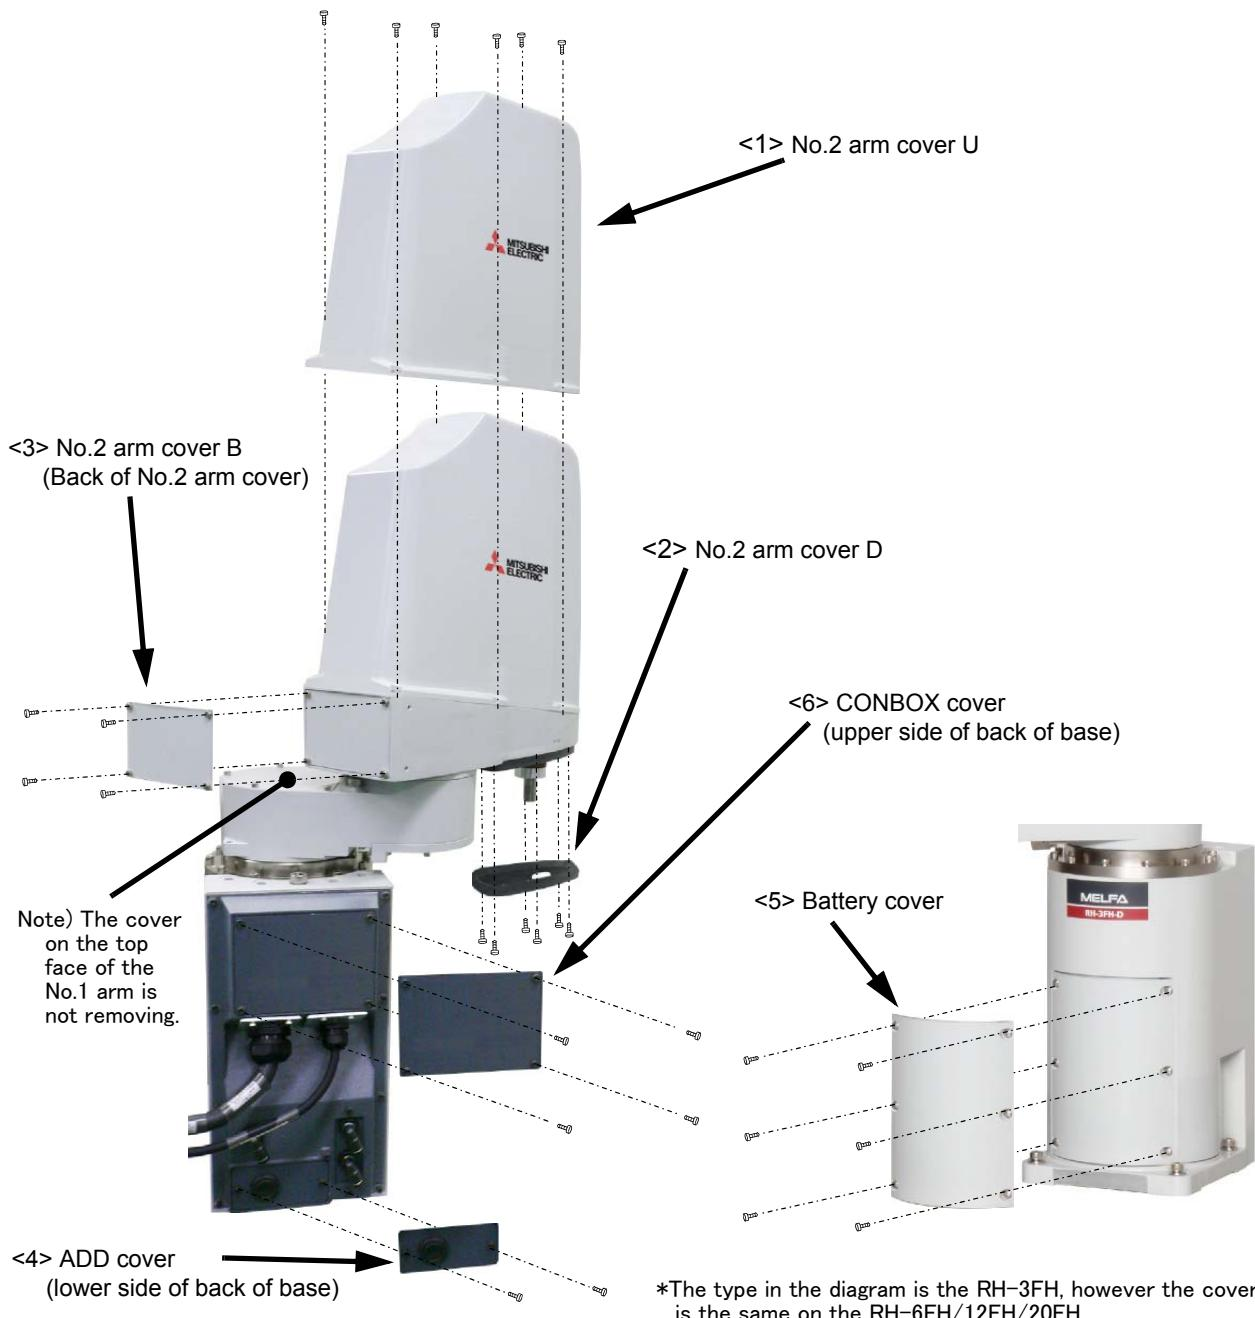

Fig.5-4 : Installing/removing the cover
- 2) Refer to Page 79 "Fig. 5-4: Installing/removing the cover", and remove the No.2 arm cover U.